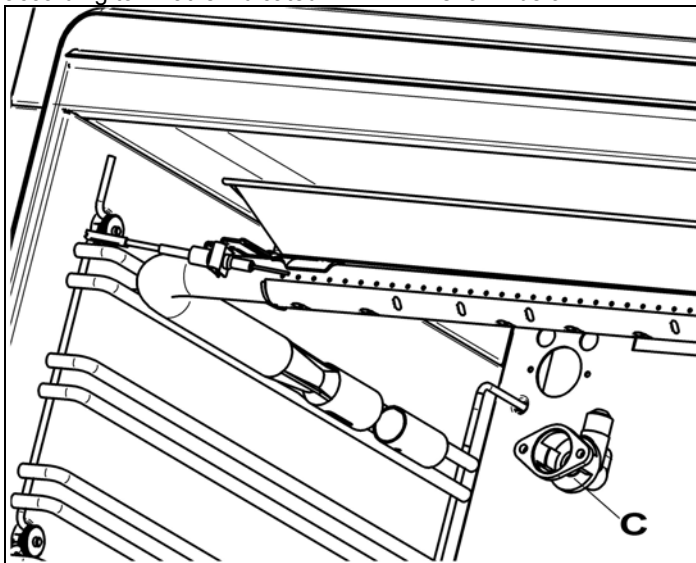

Fig. 11
- 1) Loosen the screw and pull out the burner from the support being careful not to damage the ignition plug and the thermocouple (Fig. 11).
- 2) Unscrew the nozzle **C** (Fig. 11) using a 7 mm spanner and replace it with the nozzle needed for the new type of gas according to what is indicated in TABLE shown below.